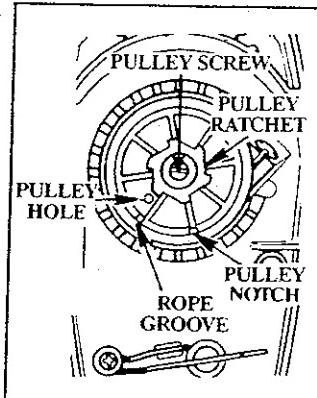

Figure 29
10. Remove screw from the starter pulley very carefully. Rotate the pulley clockwise → until no spring tension is felt and carefully lift the pulley out of the fan housing. Figure 29. Remove the old rope.
17. Carefully replace pulley in the housing. Be sure the pulley is all the way down. Replace washer and screw and tighten. Figure 29.